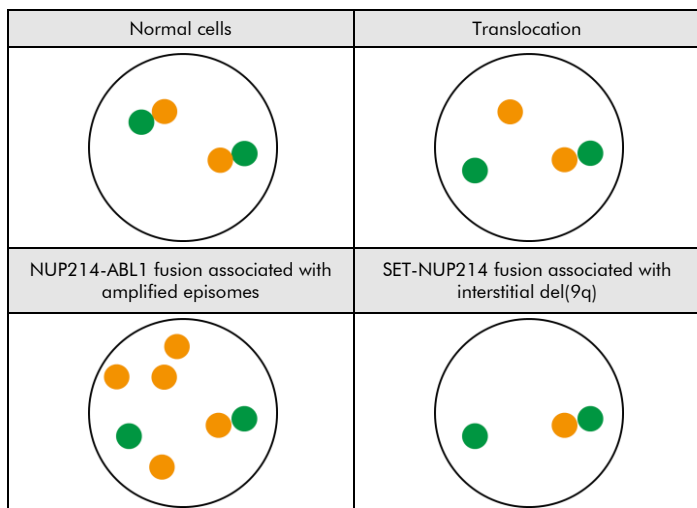

Fig. 2: Expected results in normal and aberrant interphase nuclei
**Normal situation:** In interphases of normal cells or cells without a translocation involving the NUP214 gene region, two green/orange fusion signals appear (see Fig. 2).
**Aberrant situation:** One NUP214 gene region affected by a translocation is indicated by one separate green signal and one separate orange signal. One locus affected by a NUP214-ABL1 fusion associated with amplified episomes is indicated by one separate green signal and multiple orange signals or an orange signal cluster. A deletion affecting the 9q34.12-q34.13 locus is indicated by one green/orange fusion signal and one separate green signal (see Fig. 2).